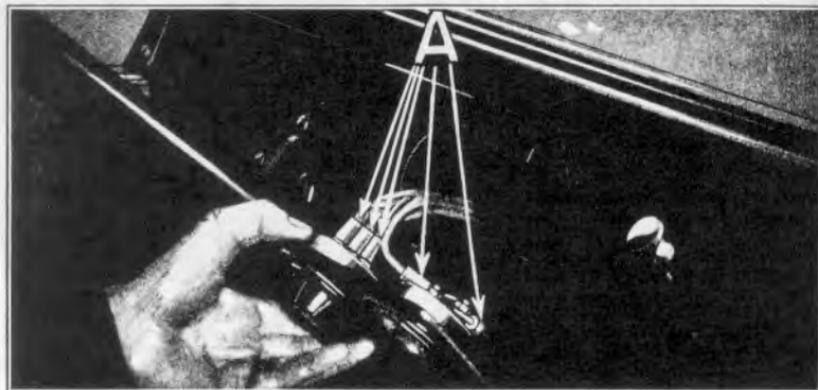

Fig. 519
- 1097** If the ammeter fails to show a discharge, and an examination discloses that the trouble is not due to the lamps being burned out, check battery wire connection on terminal block, point 13 (Fig. 498), and on back of ignition switch, point 18, and on ammeter, points 23 and 24, also at starting switch, point 26, for an open or loose connection. See that the rubber insulators on the ends of the wires on back of switch (See A, Fig. 519) are in position so that it is impossible for the metal part of any of the terminals to come in contact with each other. If these connections are clean and tight, the trouble is undoubtedly in the lighting switch, which should be checked as outlined in Par. 1101.
- 1100 If the lamps now fail to light, remove ignition switch and examine all connections on the back of switch to see that they are clean and tight, also that the rubber insulators on the ends of the wires (See "A", Fig. 519) are in position so that it is impossible for the metal part of any of the terminals to come in contact with each other.
- 1106** Disconnect "terminal block to starting switch" wire at the terminal block, point 13, Fig. 498. If the ammeter now registers zero, the hand is not bent but there is a short in the ammeter wire from the ammeter to cutout, points 3, 11 and 23, or ammeter to ignition switch wire, points 18 and 24, or in the light and ignition switch, or in the head or tail lamp wires. To find the short, examine these wires carefully for a break in the insulation; also note whether rubber insulators are in place on the terminals on back of ammeter and ignition switch (See "A" Fig. 519).